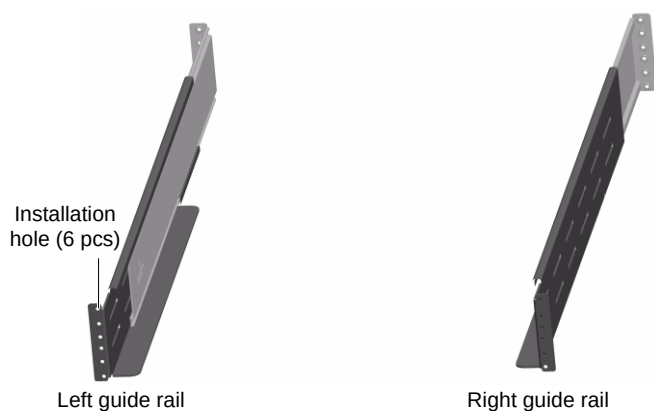

Figure 2-8 Appearance of guide rail
- 1) Take out the guide rails (one left guide rail and one right guide rail), guide rail screws and panel screws from the package, distinguish the left guide rail and right guide rail according to Figure 2-8, and confirm its retractable function respectively.
2. Each end of one guide rail has six installation holes (see Figure 2-8), do not use the two installation holes in the middle when fixing the guide rail. It is recommended to use the two installation holes at the top and at the bottom (from top to bottom, installation hole 1 and installation hole 6).